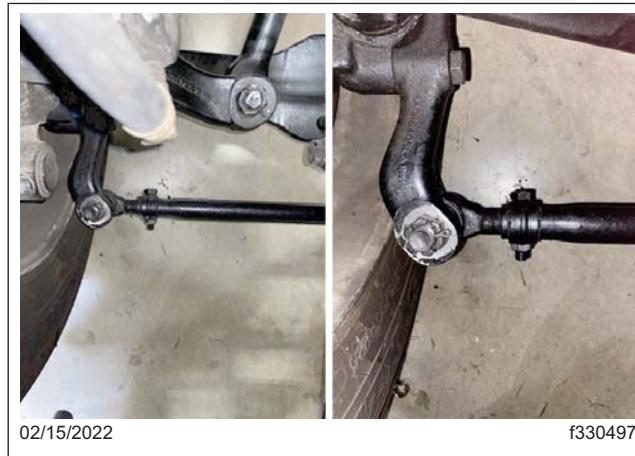

Fig. 6, Installed Tie Rod Assemblies
5. Install a new cotter pin in the tie rod end stud and castle nut. Ensure the tangs are bent properly. **Fig. 6** shows an installed tie rod assembly with castle nut and cotter pin.